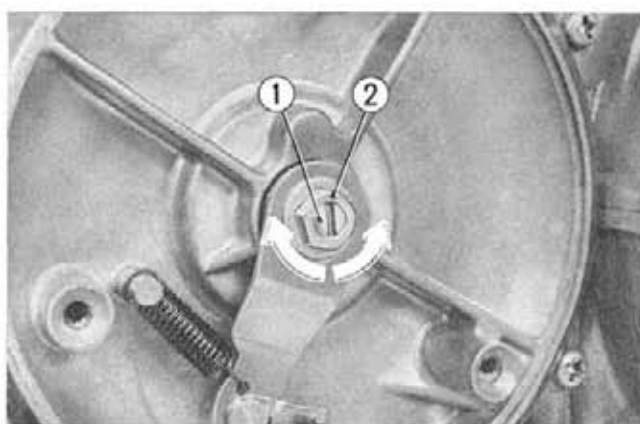

Fig. 19-13 ① Clutch adjusting screw
- c. Remove the clutch cover, loosen the clutch lifter adjusting screw lock nut, turn the clutch adjusting screw in the clockwise direction until a slight resistance is felt. From this position, turn the adjusting screw in the counter clockwise direction 1/4~1/2 turn. Tighten the lock nut. (Fig. 19-13)